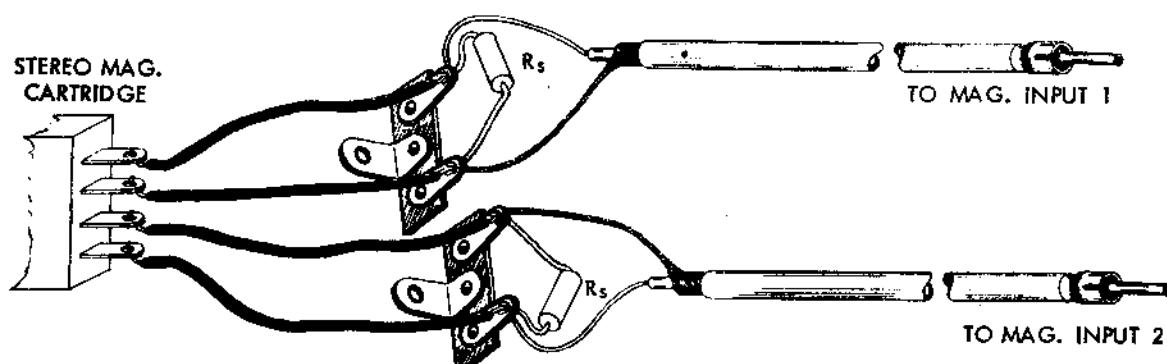

FIG. 1
1) MAG. PHONO 1, MAG. PHONO 2: These inputs are intended for the two outputs of a stereo magnetic cartridge, or for a stereo ceramic cartridge with adaptors. Four-terminal cartridges (each sensing element brought out to a separate pair of terminals) are generally advantageous as compared to three-terminal cartridges (one terminal of each sensing element brought out to a common terminal) because the possibility of increased hum due to a ground loop can be avoided. The correct method for wiring a four-terminal cartridge is shown in Fig. 1. (If the cartridge is a three-terminal type, the two inside contacts of the cartridge shown in Fig. 1 are effectively replaced by a common terminal.) The loading presented to each output of the cartridge by each MAG. PHONO input is 100,000 ohms. If a lower loading resistance is required by the particular cartridge used, connect a shunt resistor of appropriate value from each outside terminal of the cartridge to the center (common) terminal. This can be done actually by mounting a 3-post terminal strip on the underside of the phonograph mounting board at a point near the lead break-out from the pickup arm. These shunt resistors are then wired to this terminal strip as shown in Fig. 1. The value of each of the two shunt resistors ( $R_s$ ) can be determined from the desired loading resistance ( $R_l$ ) by this formula